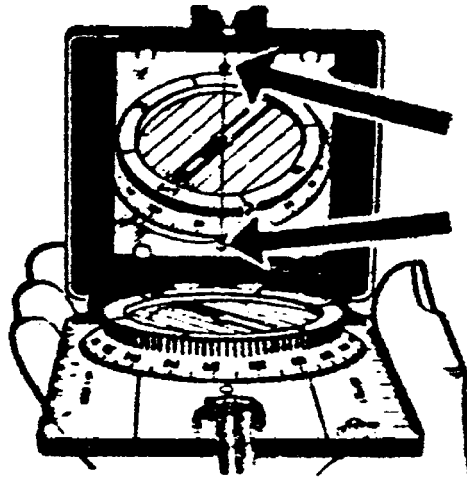

Figure 6.8 Sighting Line Oriented Correctly
- ii) While looking in the mirror, move your sighting eye sideways until you see the sighting line intersect the two luminous points as in Figure 6.8.